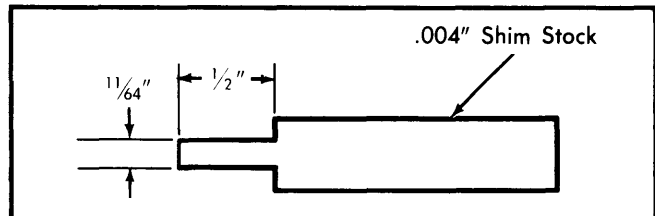

Fig. 8 Rear Main Oil Seal Installation Tool
2) Roll seal around crankshaft, using tool as a "shoehorn" to protect seal from sharp corner of seal seat surface. Tool must remain in position until seal is positioned with both ends flush with block. Make sure seal lip is positioned toward front of engine and remove tool. See Fig. 8.